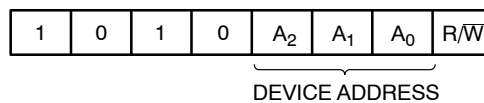

Figure 3. Slave Address Bits
The Master addresses a Slave by creating a START condition and then broadcasting an 8-bit Slave address. For the CAT24C32, the first four bits of the Slave address are set to 1010 (Ah); the next three bits, A₂, A₁ and A₀, must match the logic state of the similarly named input pins. The R/W bit tells the Slave whether the Master intends to read (1) or write (0) data (Figure 3).